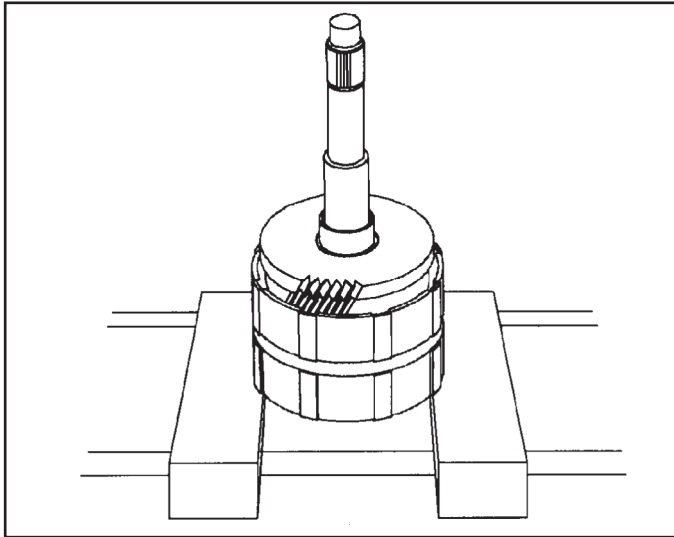

Figure 126
11. Support the 2nd/Rev and 3rd clutch drum assembly with the 3rd drive gear facing up and that the center of the drum is not obstructed (See Figure 126).
12. Install the input shaft down through the 3rd drive gear and clutch drum assembly previously assembled. Be sure that the O rings on the shaft is lubricated well with petroleum jelly. Use a twisting motion to line up the shaft with the splines in the drum assembly. Once the splines are lined up, snap the shaft down into position. Be sure that the 3rd drive gear fits all the way against the 4th drive gear (See Figure 126).